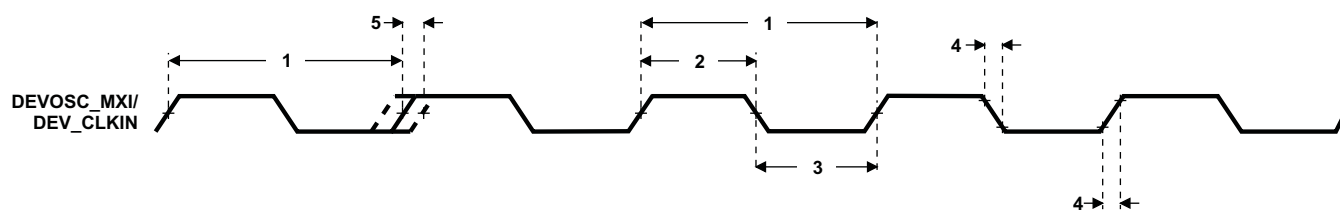

Figure 7-13. DEV_MXI/DEV_CLKIN Timing
Table 7-14. Timing Requirements for DEVOSC_MXI/DEV_CLKIN^{(1) (2) (3)}(see Figure 7-13)